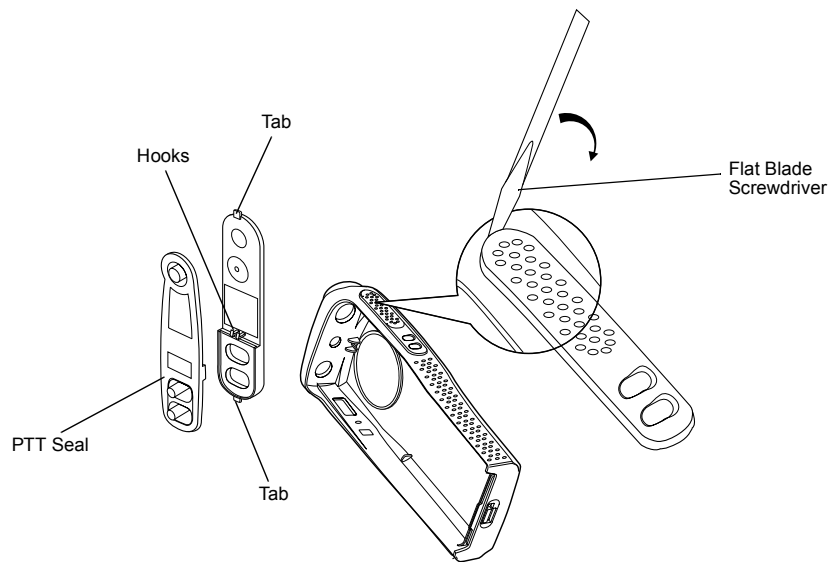

Figure 6-9. PTT Removal
1. If required, the PTT (Figure 6-9) can be disassembly using a small screwdriver, as follows: